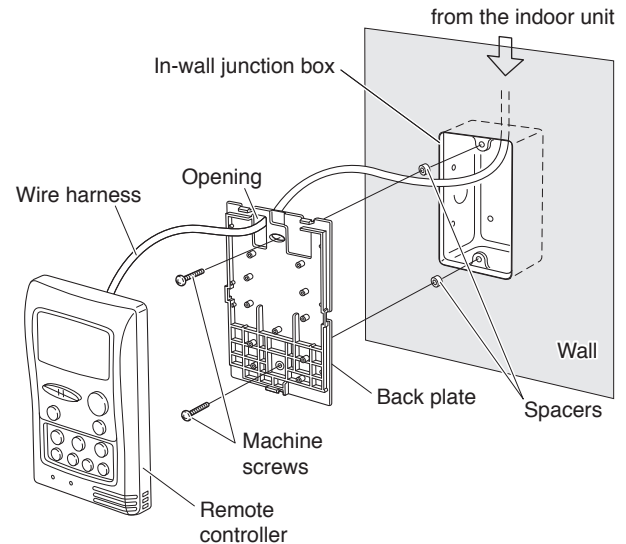

Fig. 3
- (2) Pass the wire harness through the junction box and conduit. (Fig. 3)
- (4) Pass the wire harness connector through the cord opening on the back plate of the remote controller.
- (5) Use nippers or a similar tool to cut out the slots for the remote controller back plate screws. Insert the spacers and use the machine screws to install the remote controller back plate. (Fig. 3)